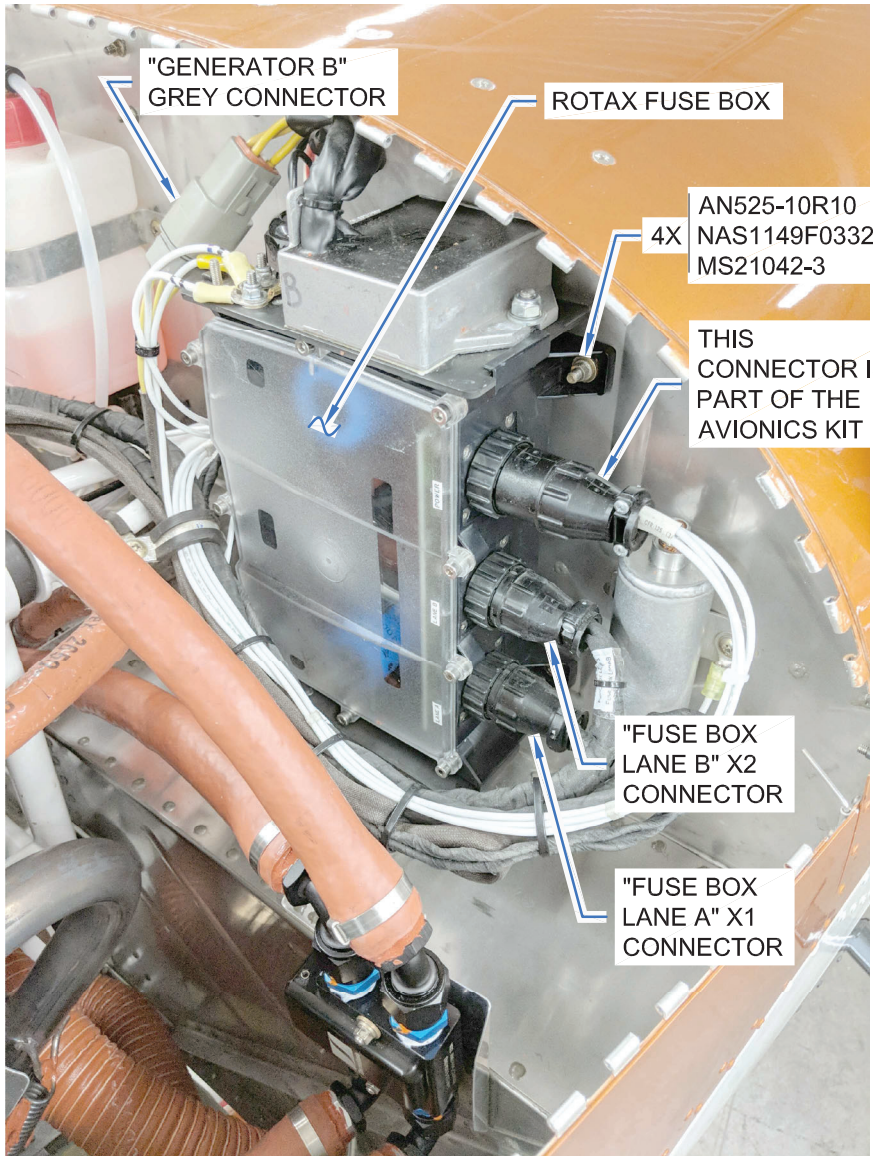

FIGURE 3: ROTAX FUSE BOX
Step 4: Secure the two ECU cables to the WD-01221-1 with the cushioned clamps as shown in Figure 3. Fabricate the bushing from BUSHING-AL.197X.313.X.968 (i.e. AT6-058X5/16).